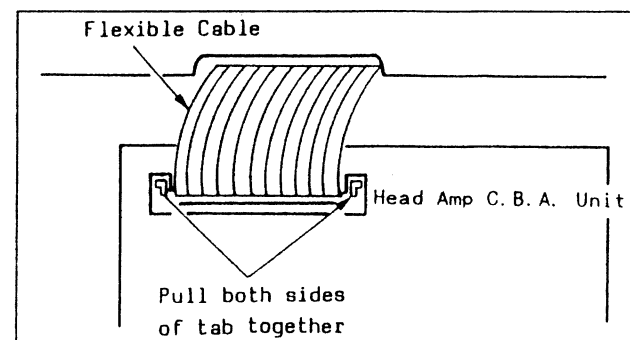

Fig. 3-2
- 1) On the Trap Connector, pull out both ends of the Locking Tab surrounding the cable end to release the Trap portion of the Connector. Then pull Flexible Cable out to remove as shown in Fig. 3-2.